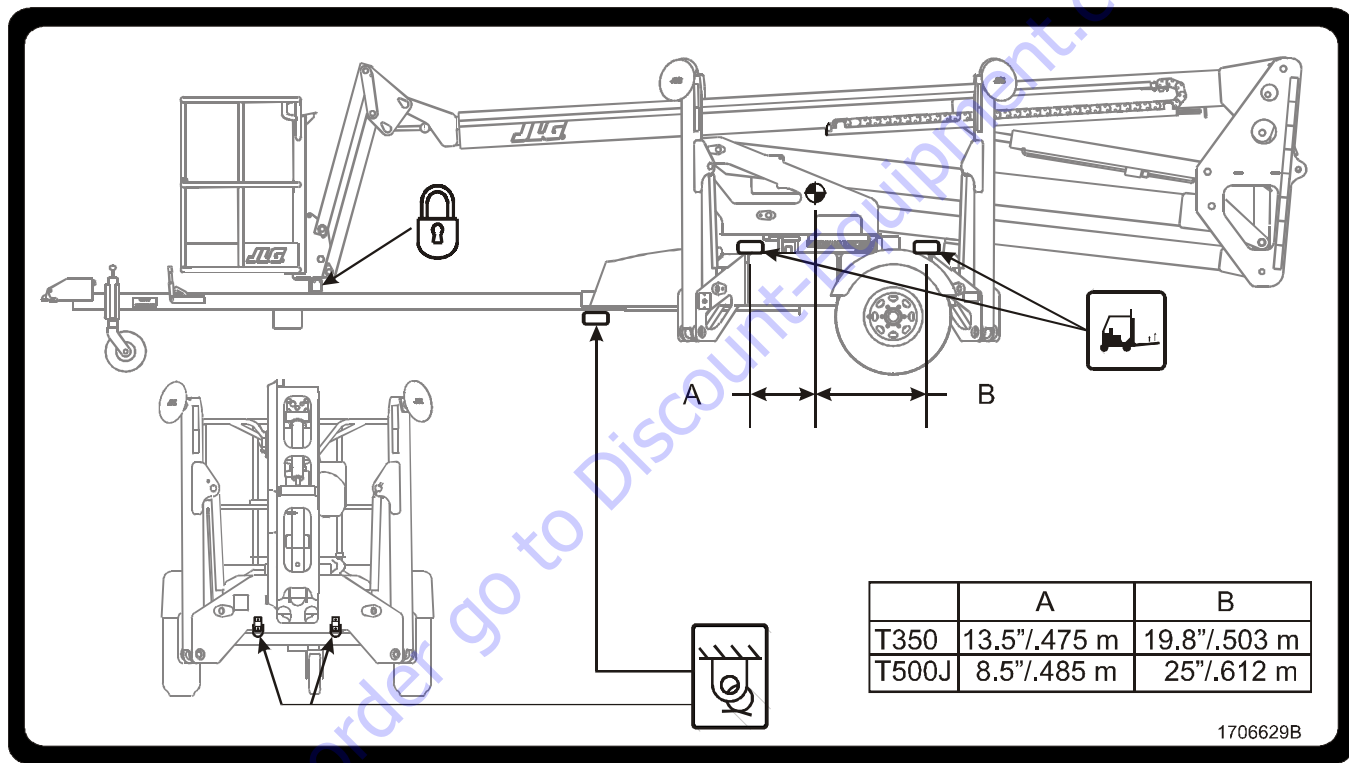

Figure 5-8. Lifting and Tie Down Chart
1. Place the boom in the stowed position and secure with the transport latch.(See Figure 5-8.)
3. Secure the chassis and the platform using straps or chains of adequate strength and attached to the designated tie down points. (See Figure 5-8.)